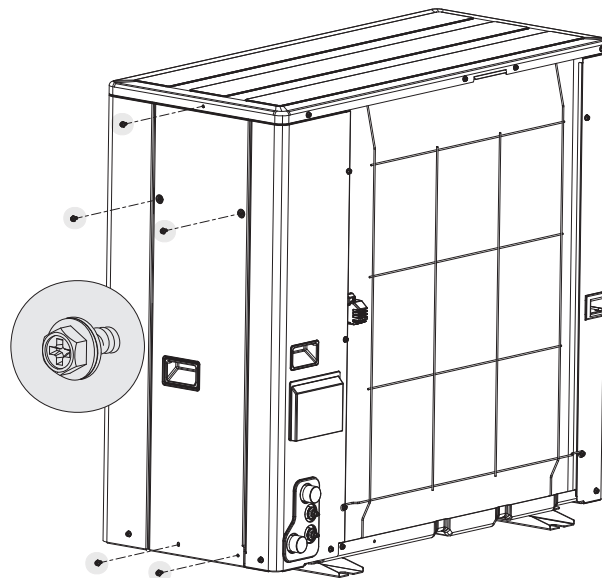

Figure 25. Heat Pump - Panel Removal
1. To remove the panel, the 4 lower screws shown in *Figure 25* are removed using an appropriate tool.